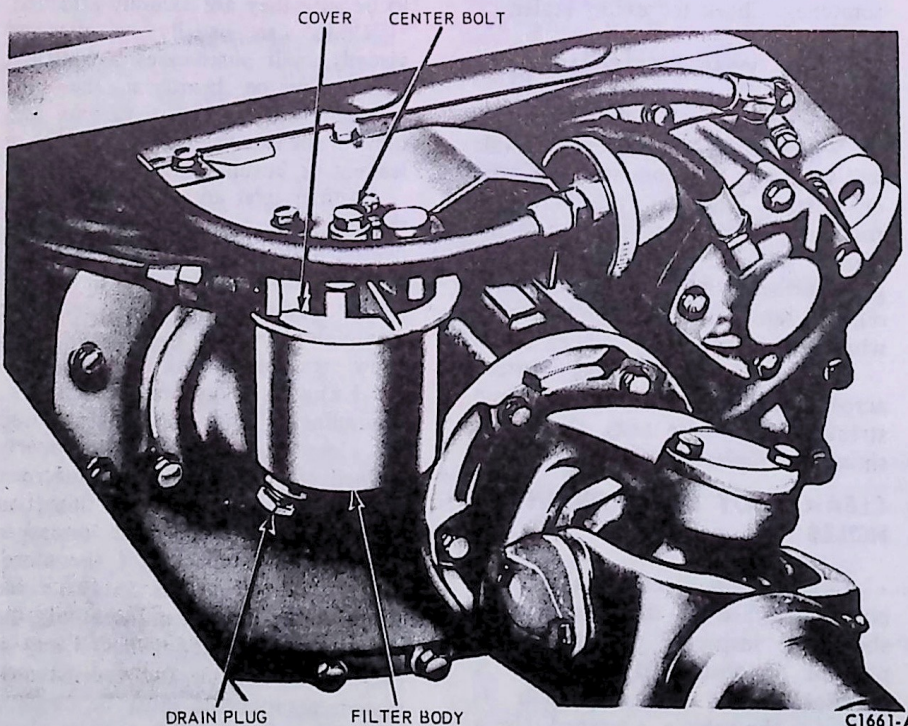

FIG. 1 Transmission Air Filter
1. Loosen the center bolt and remove the filter body from its cover (Fig. 1).
If the shifts between high and low range are sluggish, drain the water from the transmission air filter by removing the drain plug (Fig. 1).